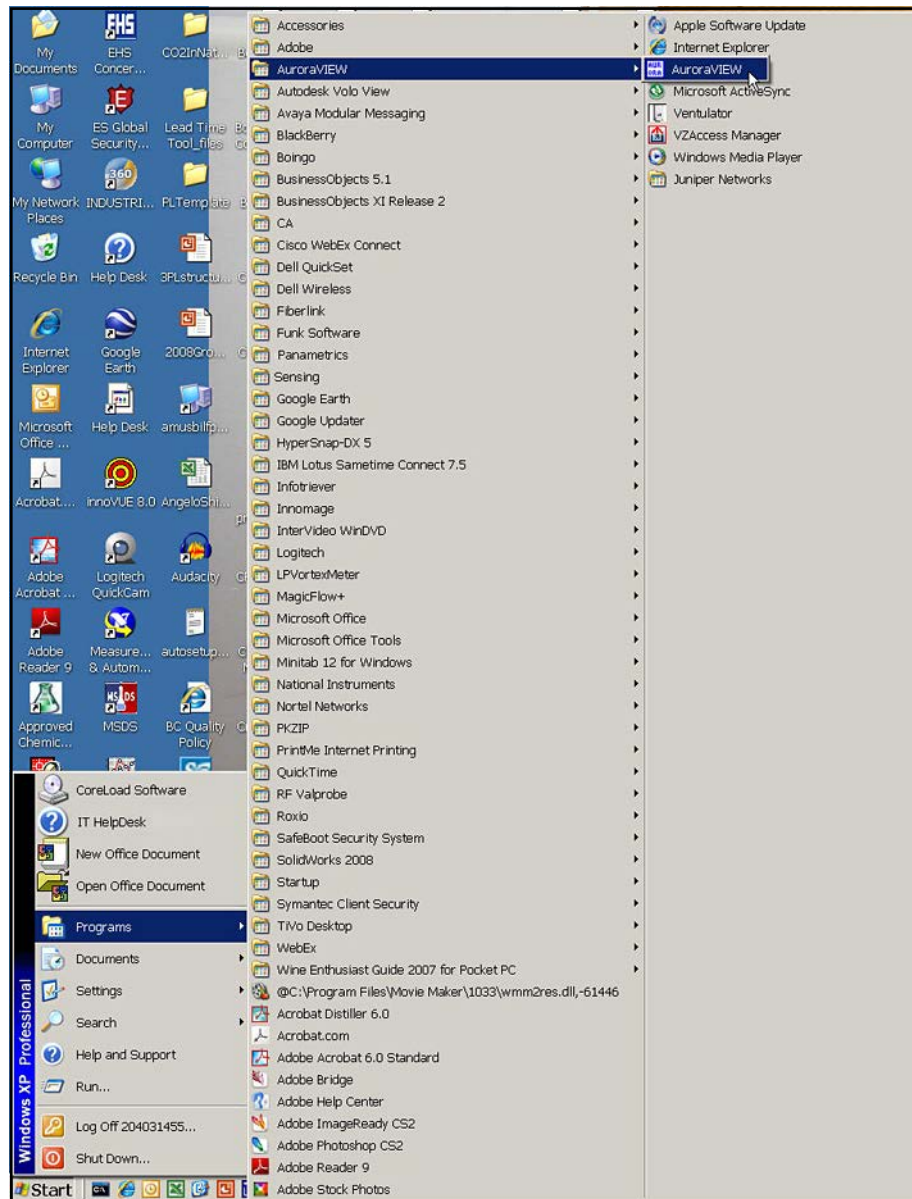

Figure 59: AuroraView in Programs Menu
1. From the **Start** menu, click **Programs** → **AuroraView** → **AuroraView** (see Figure 59 below).